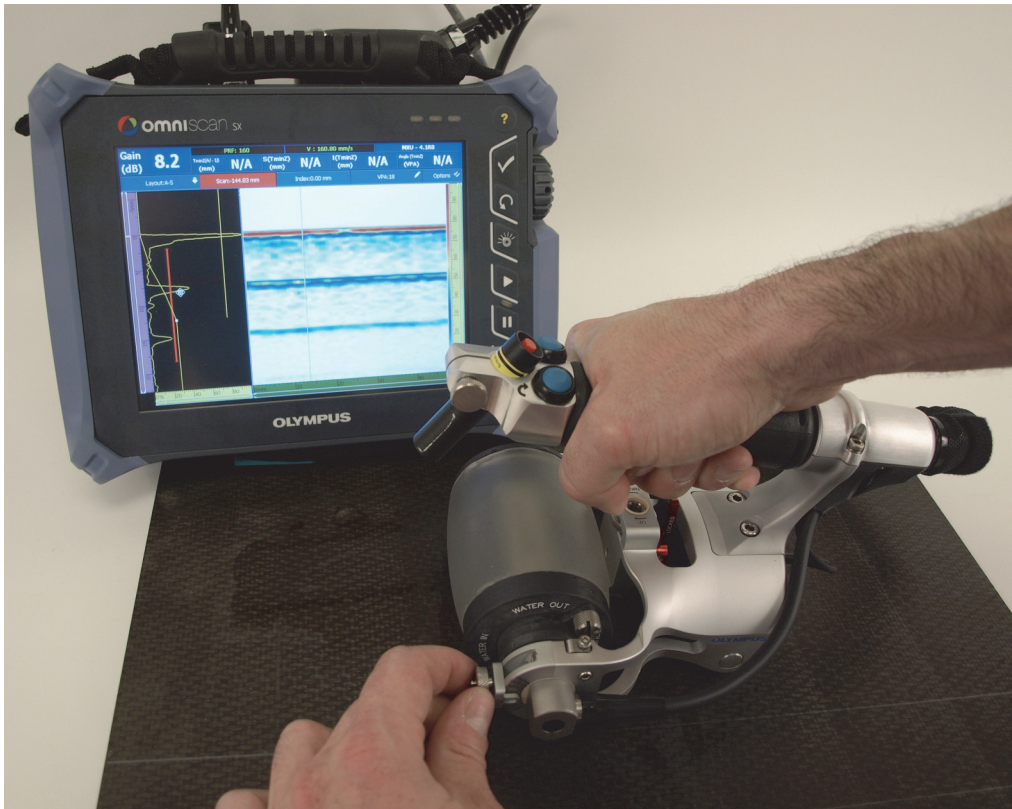

Figure 4-1 Adjusting the probe angle to optimize the signal
3. Loosen the angle-adjustment knob on the acoustic wheel's mount on the probe-cable side (Figure 4-1 on page 57).